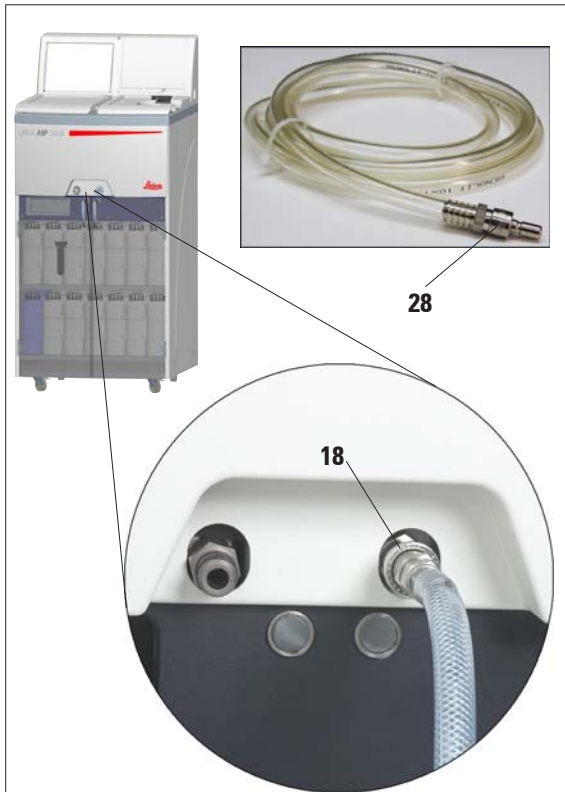

Fig. 6
- Connect the supplied remote fill/drain hose to the remote drain connection on the front of the instrument (refer Fig. 6).
When inserting the hose into the fill/drain connection (item 18 in Fig. 6) the connecting device (28) of the hose must lock with an audible click.